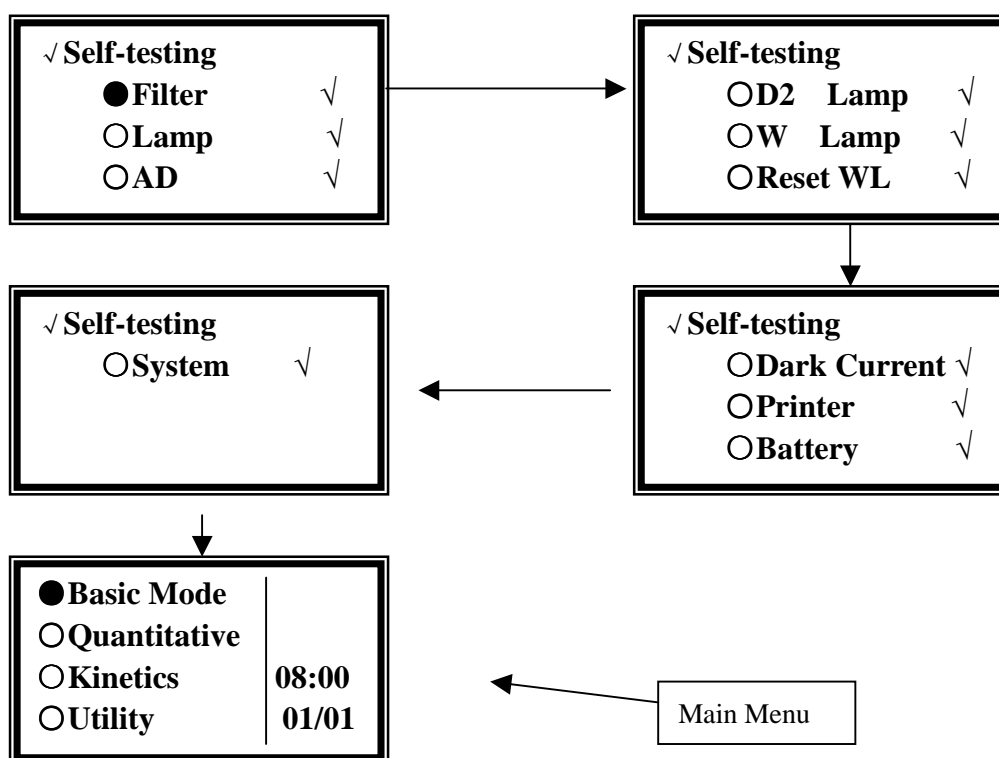
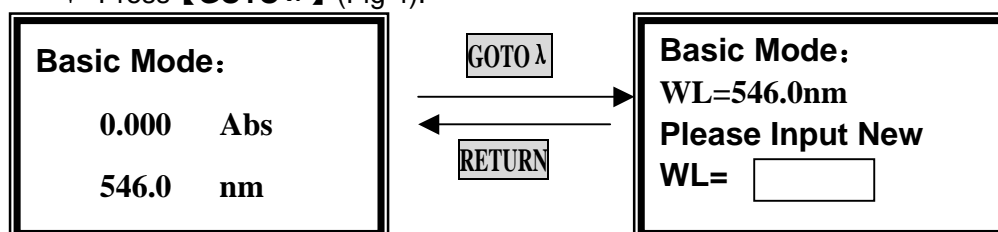
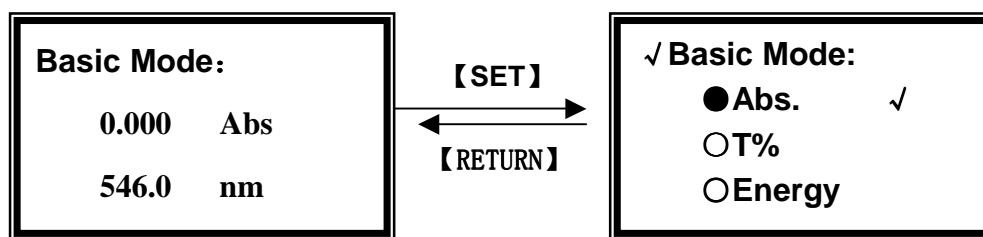

Fig 3
Fig 4
Fig.7
1. The instrument will position filter first, then initialize lamp position and AD converter, then D2 / W lamps warm up, then Wavelength reset and get dark current, After initializing printer, checking battery and setting up system, the screen display the main menu. And the self-testing process display as fig 3.
- ✧ Press **【GOTO λ】** (Fig 4).
Push the blank cuvette into the light path. In main menu (the last one of Fig. 3), move the cursor on "Basic mode", then press **【ENTER】** to go into basic mode test. After automatically blanking, it will display as the left one of Fig. 4 and wait for the operator.
Use **【□】** and **【□】** to move the cursor on **● Abs.**, then press **【ENTER】**, If the icon "√" appears at the end of **● Abs.**, you have selected successfully. Press **【RETURN】** to exit to the left of Fig.4, blank at the same time. (Fig. 7)